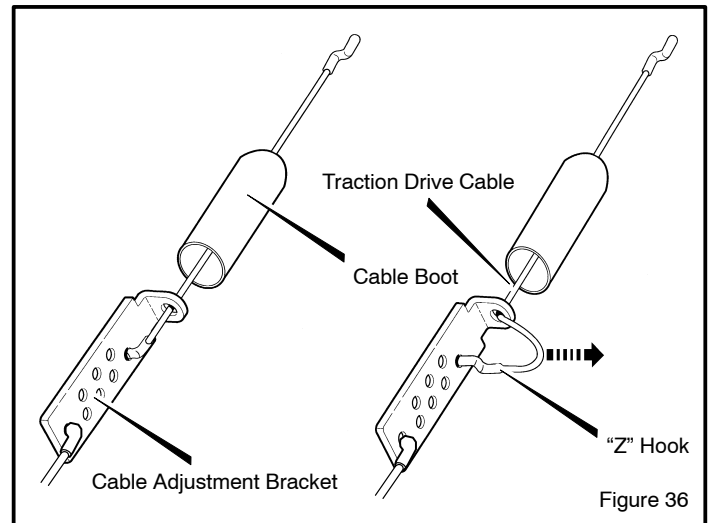

Figure 36
4. Slide the **cable boot** off the **cable adjustment bracket** (see Figure 36).